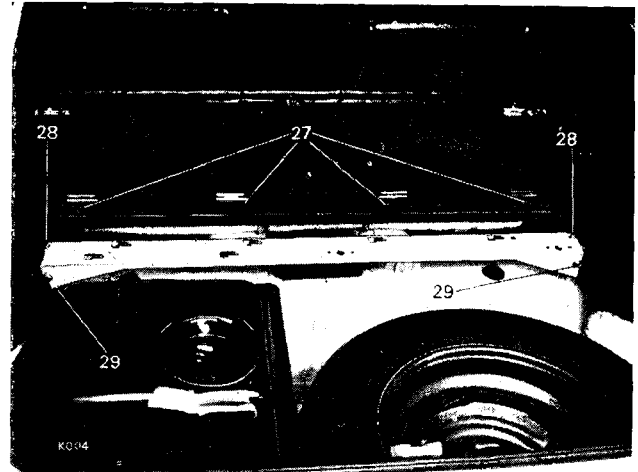

Fig. 69. Support rail fitted to centre cross member
Referring to Fig. 69, position the squab assembly complete with support rail as shown, and secure the support rail to the centre crossmember with screws (29) and hexagon headed screws (28), plain washer, spring washer and nut. Fit four spire clips (27) to the support rail.